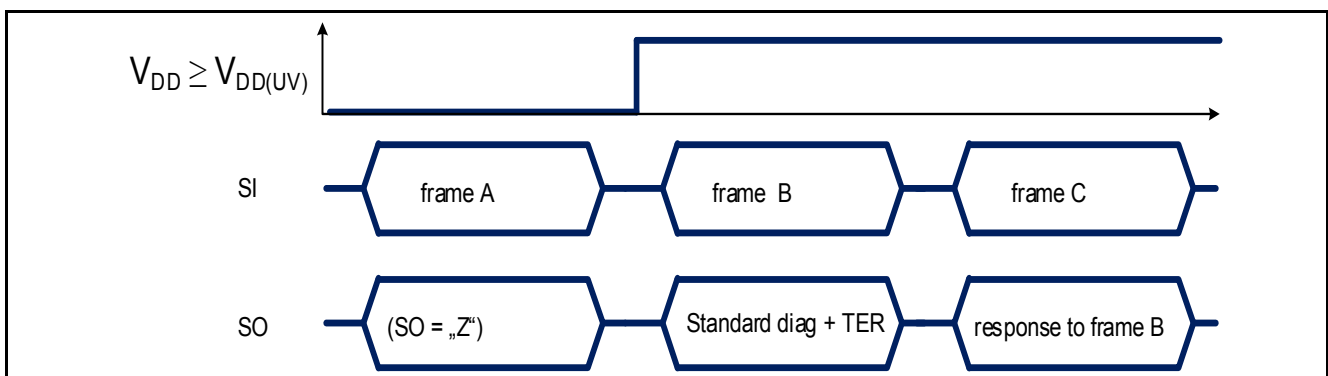

Figure 37 TLD5541-2QV response after coming out of Power-On reset at V_{DD}
- when TLD5541-2QV logic supply comes out of an Undervoltage reset condition ($V_{\text{DD}} < V_{\text{DD(UV)}}$) as shown in **Figure 37** or $\text{EN/INUVLO} < V_{\text{EN/INUVLOth}}$